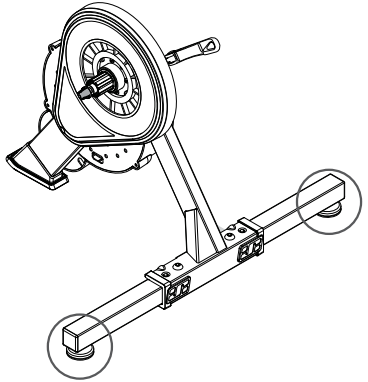

Figure 2
- 2. Level the trainer by adjusting the feet left to right (Figure 2)